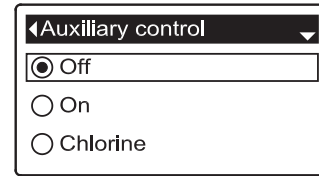

FIG. 140
7. Press the SELECT (O) button to display the Auxiliary control menu (See Figure 140).
8. If the desired option already has a black dot next to it (See Figure 140), go to Step 9. Otherwise, press the DOWN (▼) or UP (▲) buttons to scroll to the desired option, then press SELECT (O) to choose it.